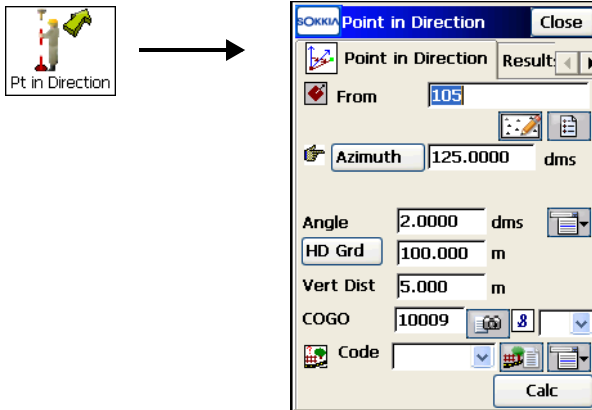

Figure 10-4. Point in Direction
1. On the *Point in Direction* screen (Figure 10-4) enter the *From* point name (known point), the azimuth set by value or as the direction to another known point, the angle offset from the azimuth line, the distance offset along the angle offset line and the height offset. Also select a name and a code for the resulting point (in the direction specified by azimuth and angle offset).